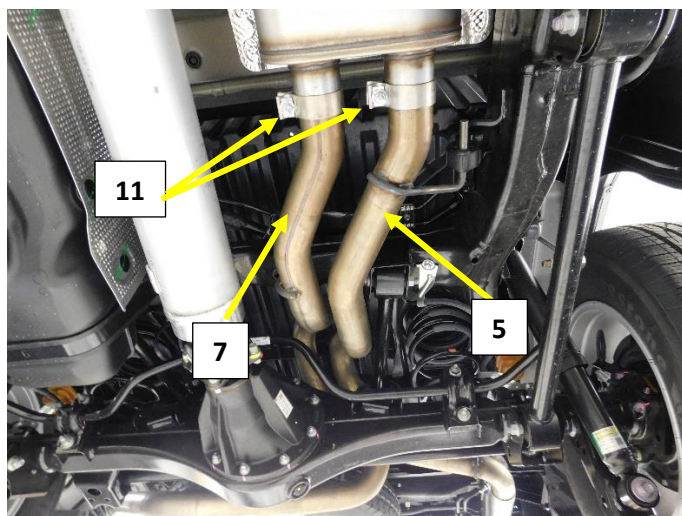

Figure.8
7. Install a supplied 2.5" band clamp (11) on each muffler outlet. **Fig.8**
8. Install the Left Muffler Outlet Pipe (5) into the mufflers left (drivers side) outlet. Install the rubber isolator on to the hanger rod and frame hanger. Rotate the outlet pipe to a $\frac{1}{2}$ to $\frac{3}{4}$ " clearance on the upper 4 link bar. Tighten the clamp just enough to prevent movement. **Fig.8/9**
9. Install the Right Muffler Outlet Pipe (7) into the mufflers right (passenger side) outlet. Rotate the pipe up and install the rubber isolator on to the hanger rod and frame hanger. Adjust the clearance between the two pipes to $\frac{1}{2}$ " just after the bend up into the chassis. Tighten the clamp just enough to prevent movement. **Fig.8/10**